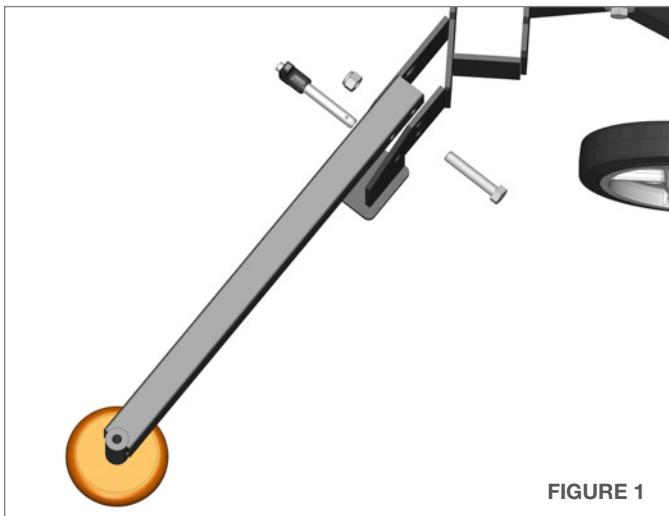

FIGURE 1
1. Remove the 1/2" Bolts, Lock Nuts, and the Quick Release Pins from the Standard Leg Assembly and Cart. (**Figure 1**)